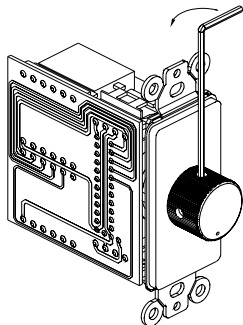

Figure 1
2. Holding the VCS-2D-HP control as shown in **(Figure 1)**, make sure that the knob is turned completely counter-clockwise, to the off position. Note the current position of the knob; this will ensure that you install the new knob in the same position as the old one. Next, using a 5/64" allen wrench/driver, locate the two set screws on the side of the knob and carefully loosen both screws until the knob may be removed. It is not necessary to completely remove the screws from the knob.
5. Locate the new knob. Place the new knob onto the shaft and align it to the same position as the old one. Secure the knob to the shaft by tightening the two set screws on the side of the knob. Holding the VCS-2D-HP as shown in **(Figure 1)**, check the alignment of the knob by turning it through all positions.